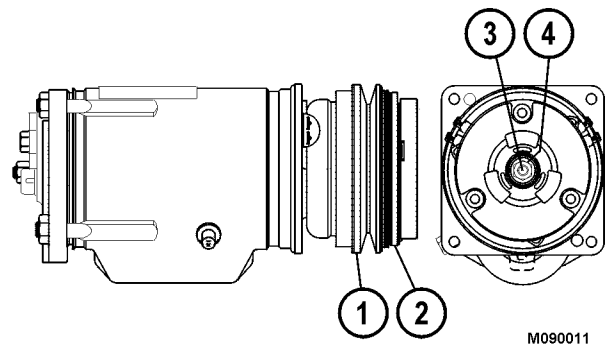

FIGURE 4-17.
3. Remove locknut (4, Figure 4-17) using thin wall socket (1, Figure 4-18) or the equivalent.